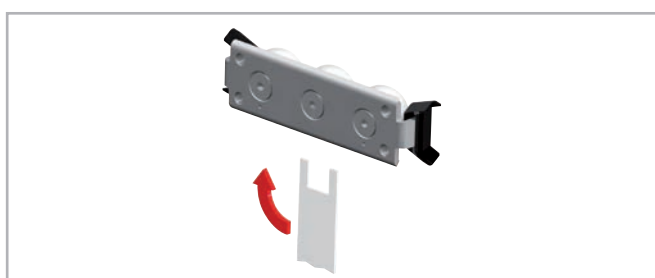

Fig. 67
- (5) For the U-rails there must be a thin support (e.g. set key) under the ends of the slider body to ensure the horizontal alignment of the slider in the rail raceways.
- (6) The adjustment can take place at any point on the rail. If possible, position the slider at one end of the rail to simplify insertion of the flat spanner.
- (7) Insert the flat spanner supplied to the side and use it to engage the hexagonal or square shaft of the eccentric pin to be adjusted (see fig. 67).
- (8) Turn the flat adjustment spanner clockwise so that the eccentric bearing contacts the raceway opposite the factory-set fixed bearings, thus reducing the slider clearance to zero. Avoid applying a too high preload, which would cause high wear and reduce service life.
- (9) While holding the pin in the correct position with the flat adjustment spanner, tighten the fixing screw to ensure that the pin is locked in position.
- (10) Run the slider and check the preload over the entire length of the rail. The movement must be smooth. If any oscillation/clearance or excessive force is observed, repeat the adjustment operation. Preload is optimized when the slider runs smoothly and without play.
- (11) Preload values can be checked by slowly inserting the slider at the end of the rails. The insertion force is proportional to the preload. Preload is optimized when the slider runs smoothly and without play.
- (12) For sliders with more than 3 bearings, repeat this procedure for each one to be adjusted. Ensure that all bearings have uniform contact with the raceways.
- (13) While maintaining the angular position of the pin with the flat spanner, tighten the adjusted bearing fixing screw with a torque spanner. The prescribed tightening torque is shown in table 51.
- (14) Reinstall the wipers.